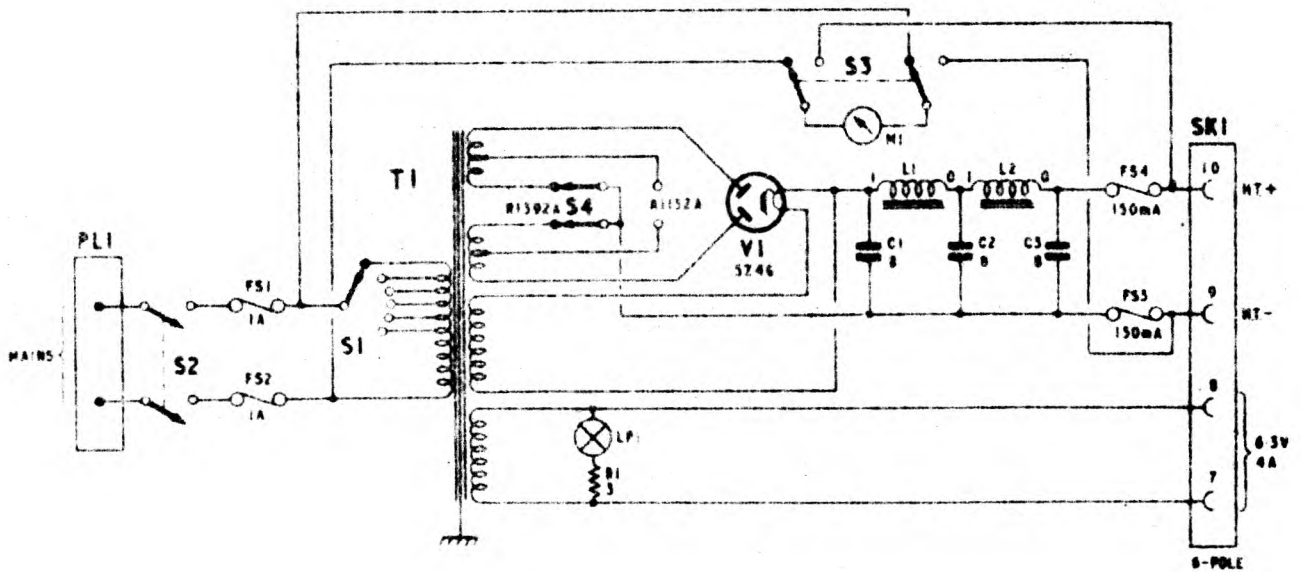

Fig. 1. Power unit Type 231A : circuit
2. The h.t. winding of T1 is provided with a tapping switch S4. In the R.1132A position shown in fig.1, only part of the secondary turns are used, hence, the input voltage to the rectifier is reduced. When S4 is set to the R.1392A position, the input voltage to the rectifier is increased, owing to the increased number of turns in the secondary winding, consequently the h.t. output from V1 is correspondingly increased. The h.t. negative line from the centre-tap of this winding is not earthed and is connected to the smoothing network and to pole 9 on SK1 via the fuse FS3.